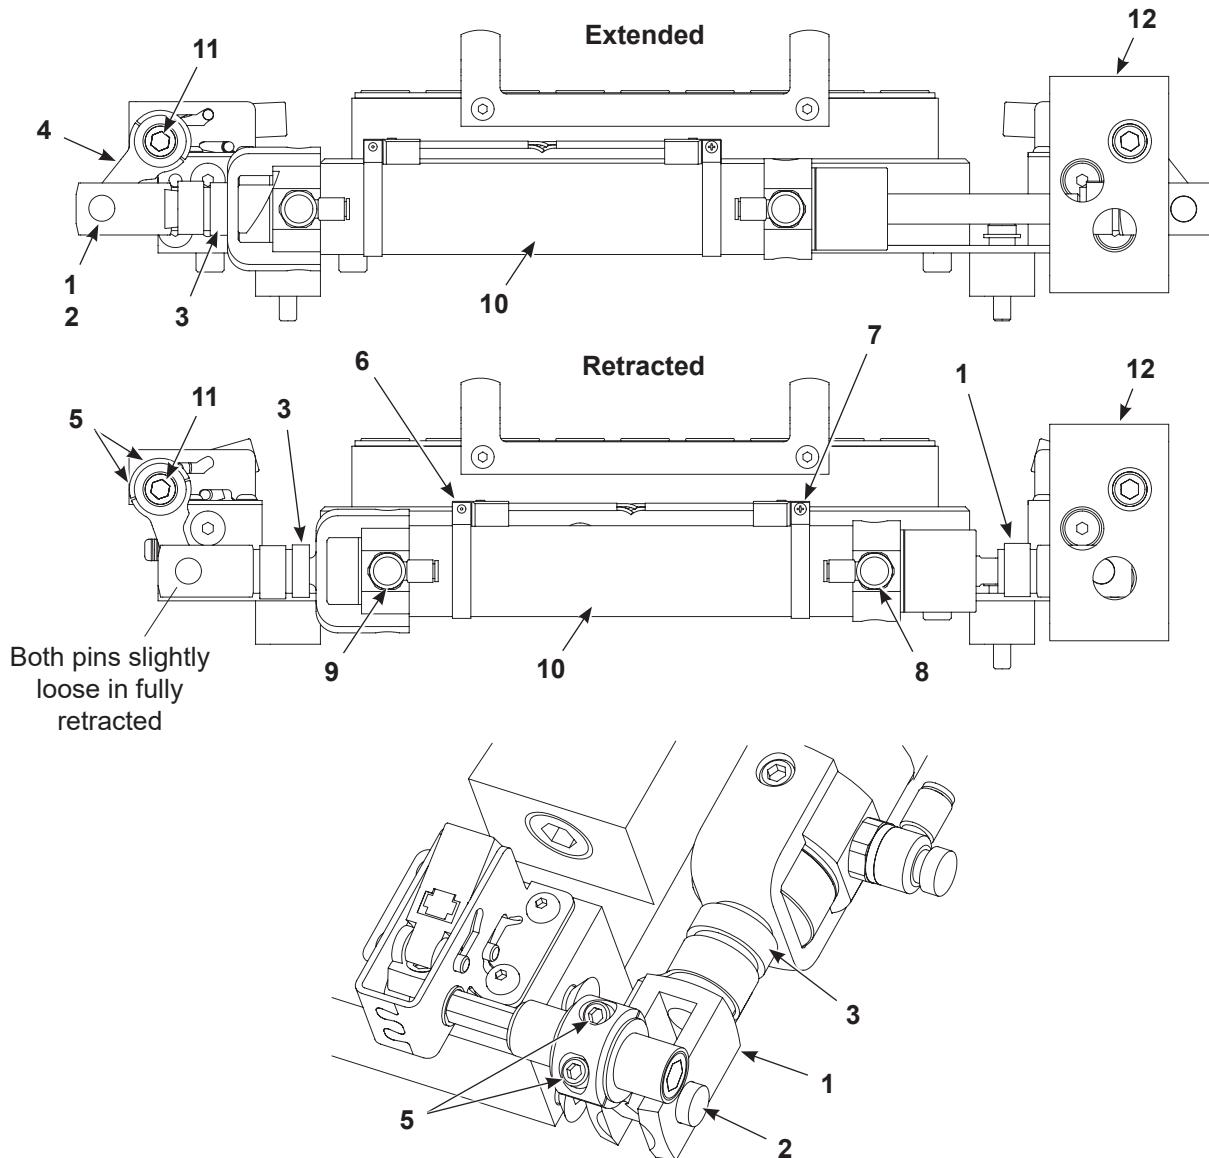

Figure 8-6 Clamping Cylinder Replacement
2. See Figure 8-6. Disconnect the air tubing from the cylinder flow control valves.
4. Remove the clamp screws (5) on each lever assembly (4), then remove the cylinder assembly (10), and lever assembly (4) from the manifold shaft (11).
5. Discard the old cylinder assembly (10) and lever assemblies (4).
6. Remove the proximity switches (6, 7) from the new cylinder assembly (10).
7. Center the new cylinder assembly (10) inside cylinder adapter spacer (12) with the latches in fully open position and the cylinder fully retracted.
**NOTE:** Indentations in the lever assemblies (4) must be located facing inwards.
8. Using an M5 Allen wrench, attach the lever assemblies (4) to the manifold shaft (11) ensuring that lever assemblies (4) remain centered and the latches will remain open.
**NOTE:** It may be necessary to re-clock the rod or slightly extend the cylinder to ensure lever assemblies (4) attach properly with latches fully open.